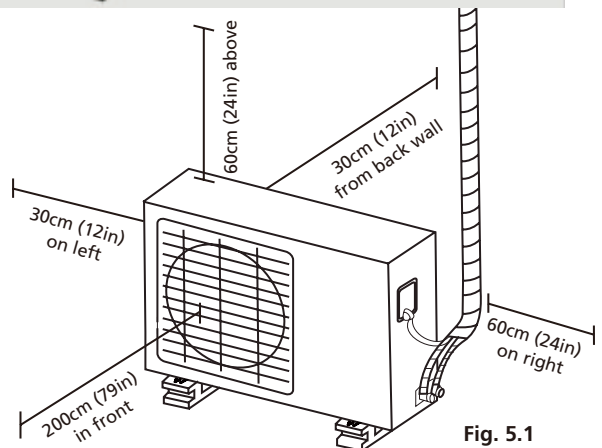

Fig. 5.1
- ☑ Meets all spatial requirements shown in Installation Space Requirements (**Fig. 5.1**)